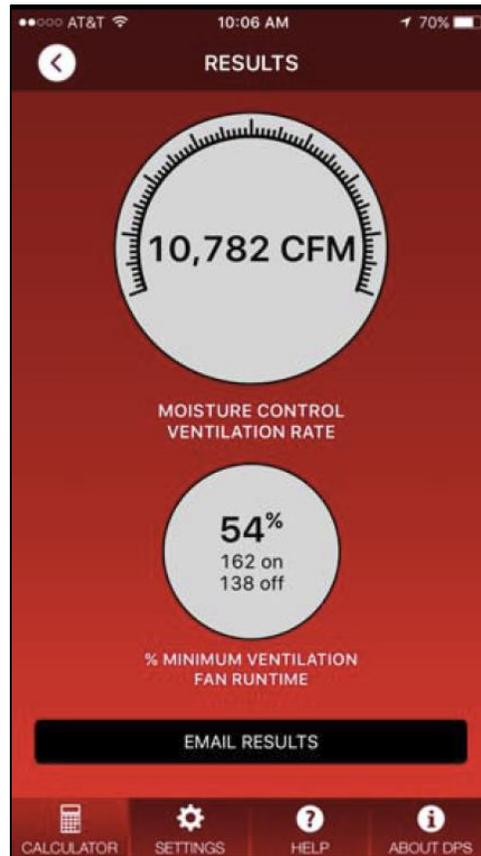

Figure 6. Calculated moisture balance moisture balance ventilation rate.
- From this the App will calculate a moisture balance ventilation rate as well as a minimum ventilation fans runtime (% runtime as well as seconds on/off out of 300) (Figure 6).